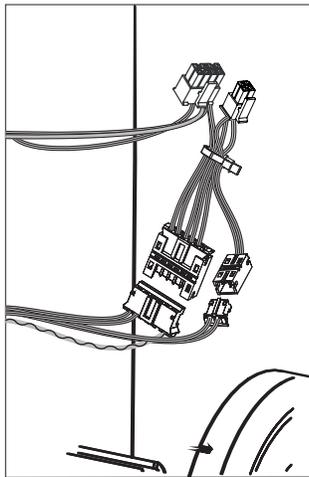

Fig. 10a
- a. Connect 6-pin connector from lock body to 6-pin connector on reader harness (Fig. 10a, b).
- b. Connect 2-pin connector from lock body to 2-pin connector on reader harness (Fig. 10a, b).